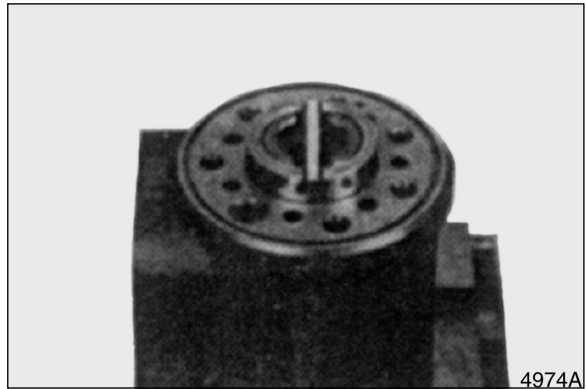

Figure 44
14. Bolt housing back into stabilizing base. See Figure 44.